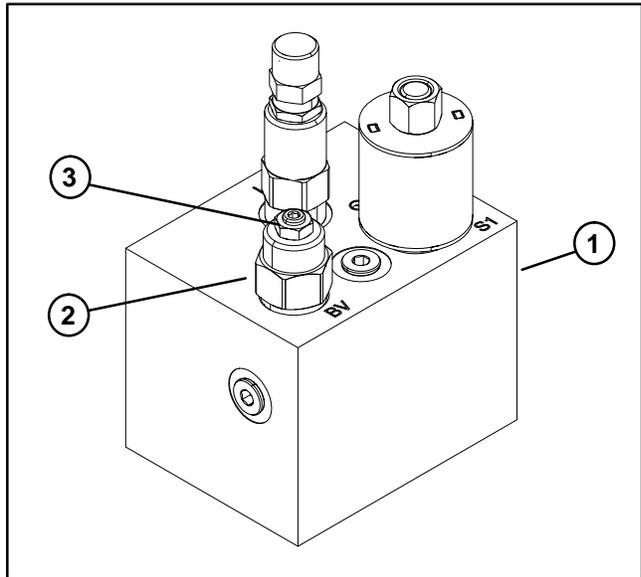

Figure 40
1. Loosen lock nut on braking valve (Fig. 40).